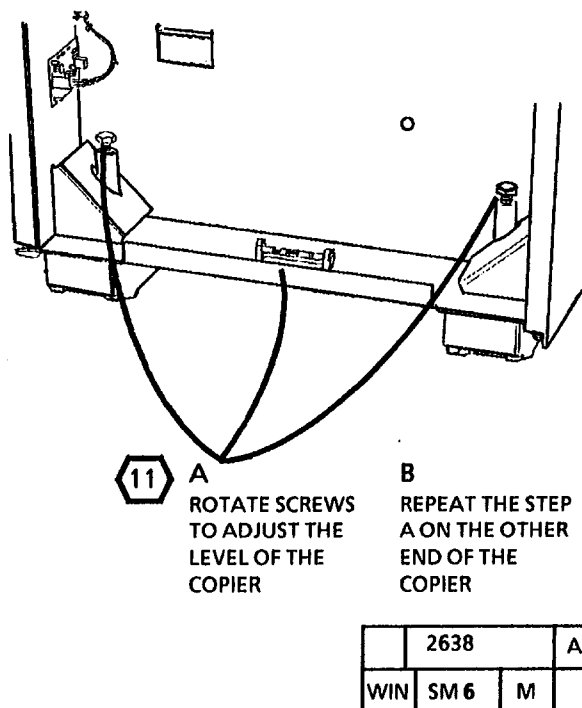

Figure 15. Adjust the front-to-back level
14. (Figure 15): Adjust the front-to-back level.